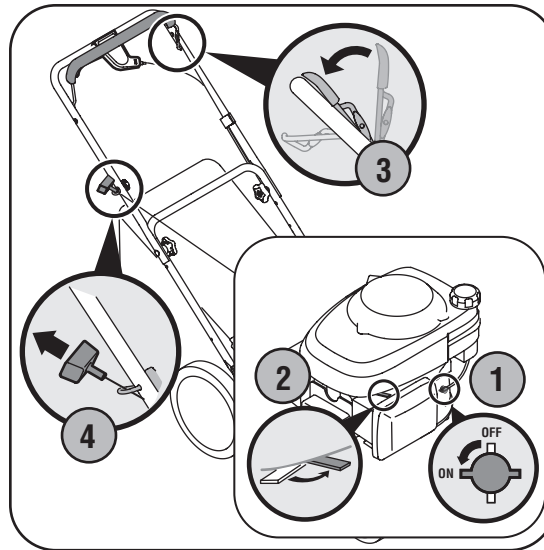

Figure 4-2
2. Move the choke lever (if equipped) all the way backward into the choke position. See Figure 4-2.
3. Standing behind the mower, squeeze the blade control against upper handle as shown in Figure 4-2. The choke will now begin to slowly return to the off choke position after activating the blade control. Therefore, quickly move onto step four below.